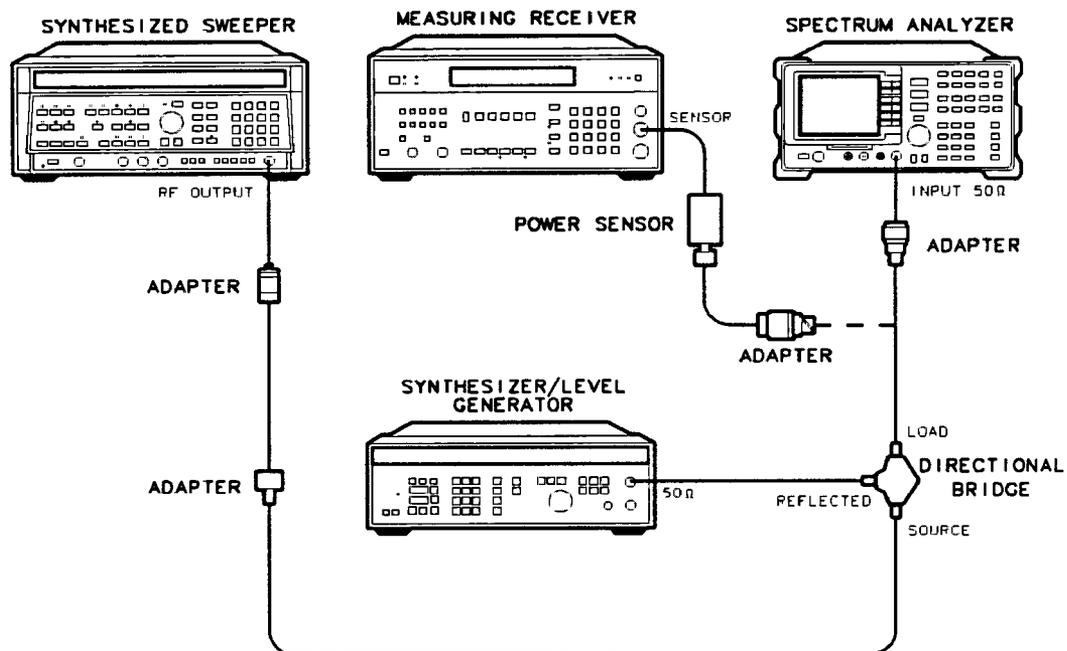

Figure 3-20. Gain Compression Test Setup
2. Connect the equipment as shown in Figure 3-20, with the load (reflected) of the directional coupler connected to the power sensor. *Option 001:* Use the HP 8483A power sensor with an 1250-1534 Type N (f) to BNC (m) 75Ω adapter and use an HP 1250-1288 BNC (m) to BNC (m) 75Ω adapter in place of the 50Ω adapter.